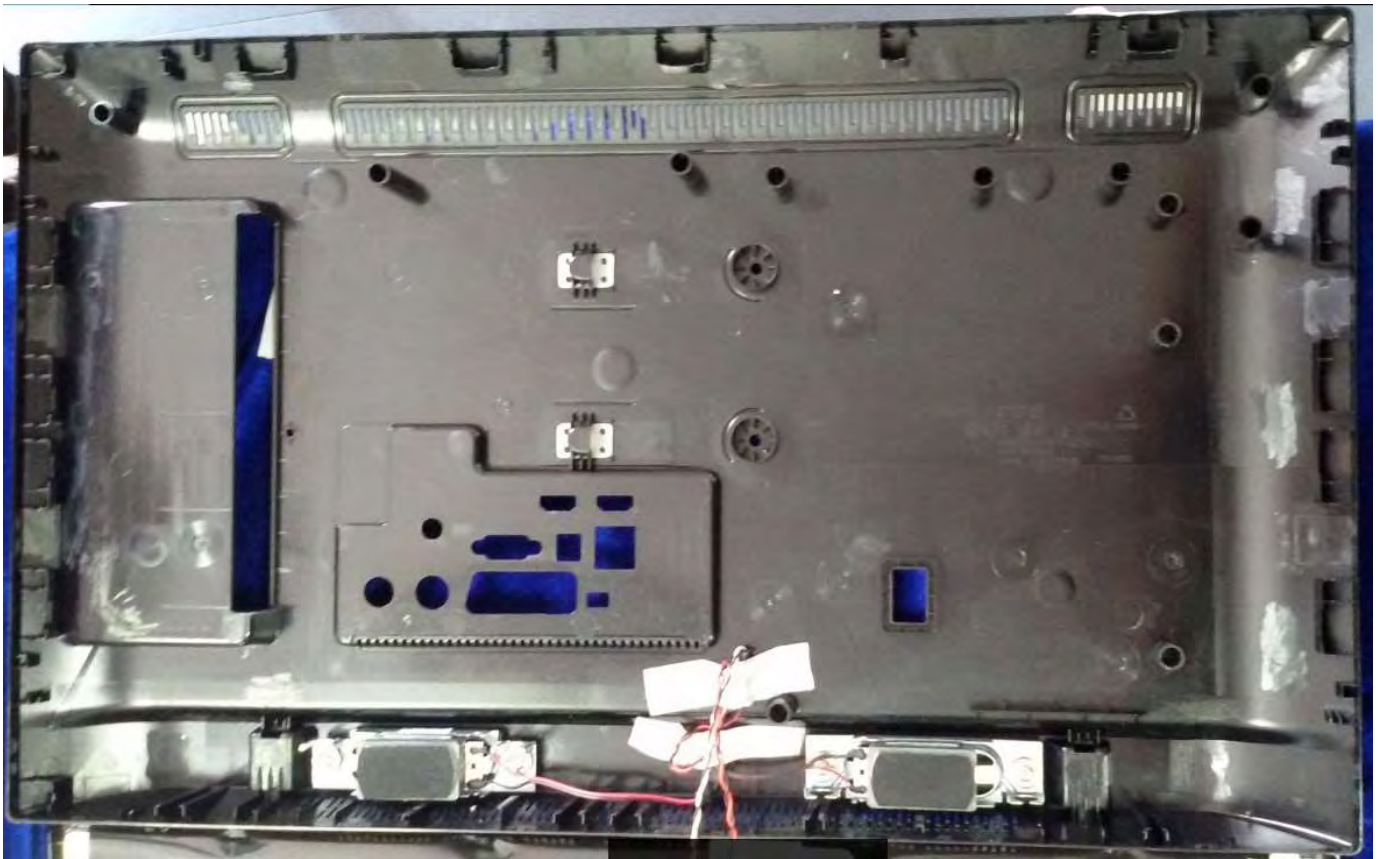
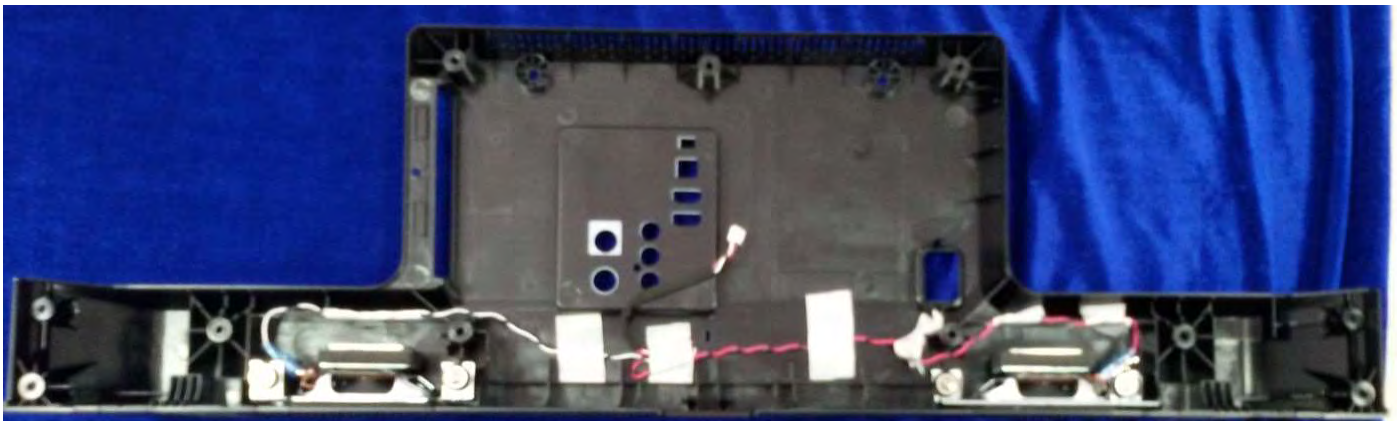

Figure 3-21 (For 24" 4022 series)
Figure 3-22(For 32" 4112 series)
**Notes:** For 24" 4022 & 32/39/43" 4112 series, the speaker is catch on the Back cover. Please be careful to avoid damage the fragile connectors when assembly! Refer to Figure 3-21 and Figure 3-22 for details.